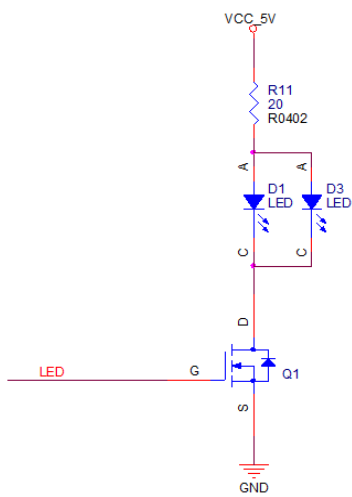
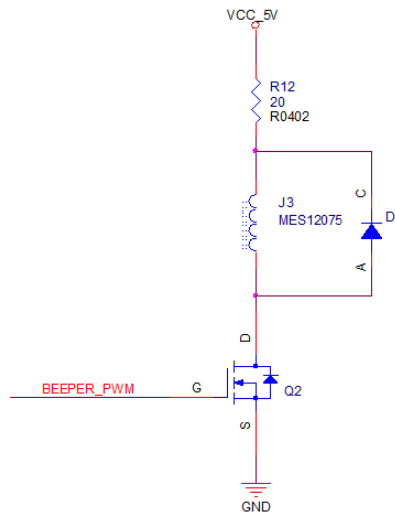
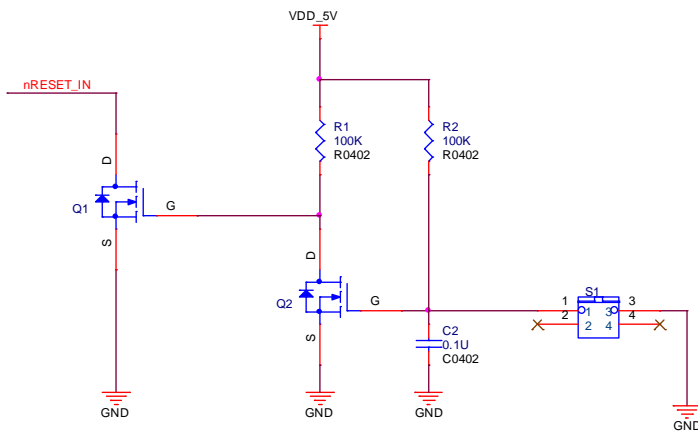
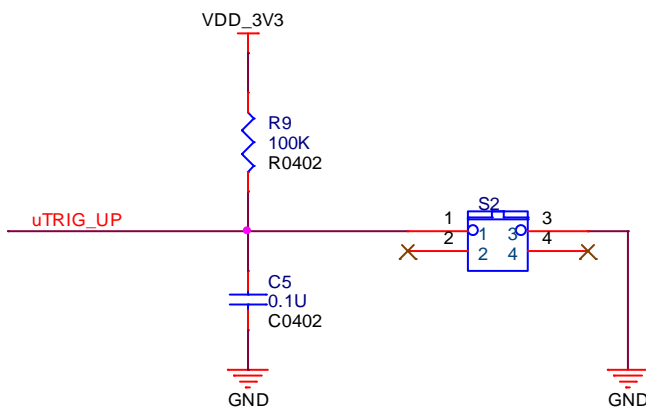

Figure 2-2 The typical circuit for signal of LED
Figure 2-3 The typical circuit for signal of BEEPER\_PWM
Figure 2-4 The typical circuit for signal of nRESET\_IN
Figure 2-5 The typical circuit for signal of uTRIG\_UP
**Figure 2-2** shows the typical circuit for signal of LED. **Figure 2-3** shows the typical circuit for signal of BEEPER\_PWM. **Figure 2-4** shows the typical circuit for signal of nRESET\_IN. **Figure 2-5** shows the typical circuit for signal of uTRIG\_UP.